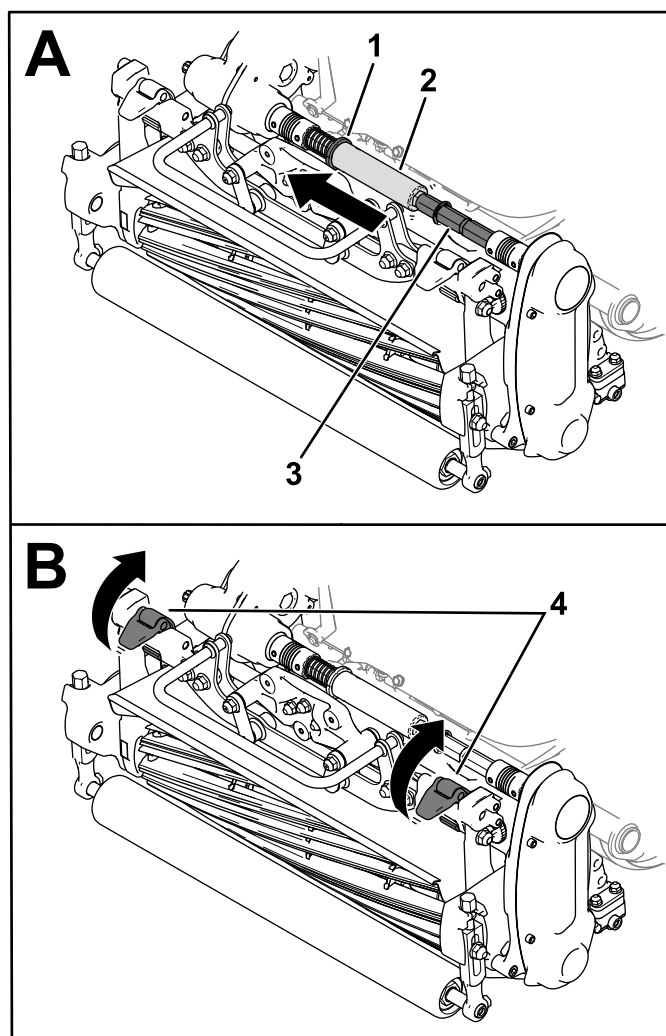

Figure 46
- Move the collar (Figure 46) into the transmission-shaft groove.
- Slide the hex tube off of the cutting-unit coupler shaft (Figure 46).
- Move the suspension latches up to release the cutting unit from the machine (Figure 46).